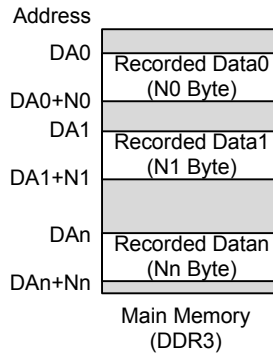

Figure 3-6 Prepare Data for Write DMA Ext command
- 1) Prepare recorded data to space area in Main memory. Assumed that recorded data is spitted into n+1 segments, as shown in Figure 3-6.